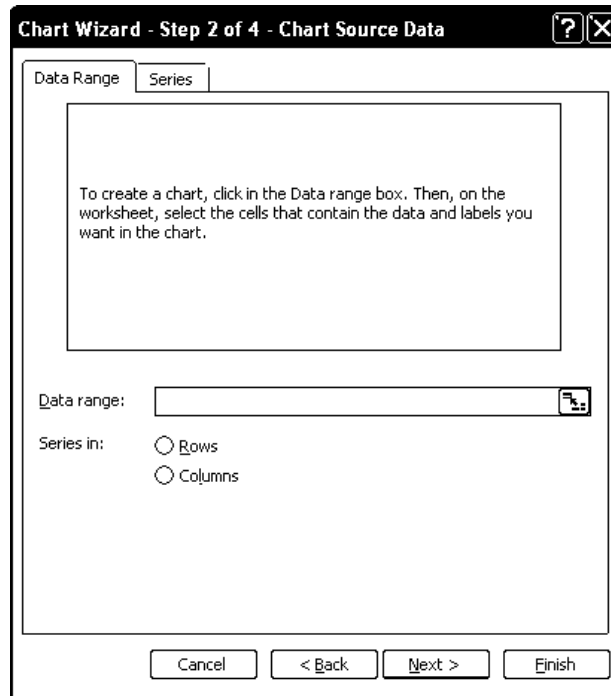
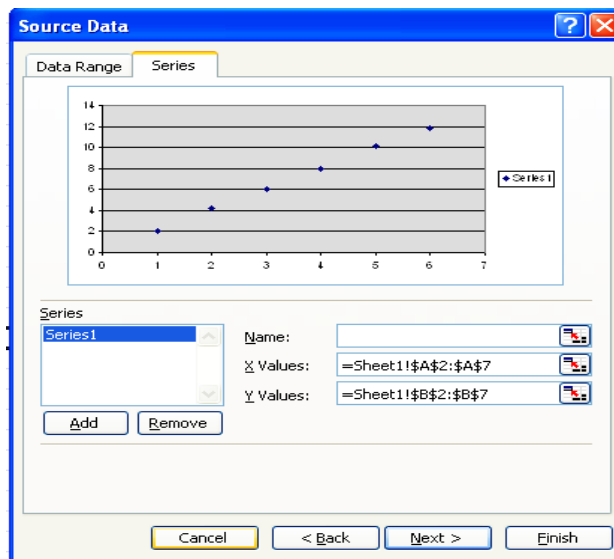

Figure 8
Figure 9
- 3- After clicking **Next**, the chart wizard wants to know which data are desired to be plotted. Chart Source Data dialog box allows you to select the data set that will be plotted via the Series (**Fig. 8**) and Data Sources dialog box (**Fig. 9**)
- 4- Select the x-axis and y-axis data ranges (**Fig. 9**).